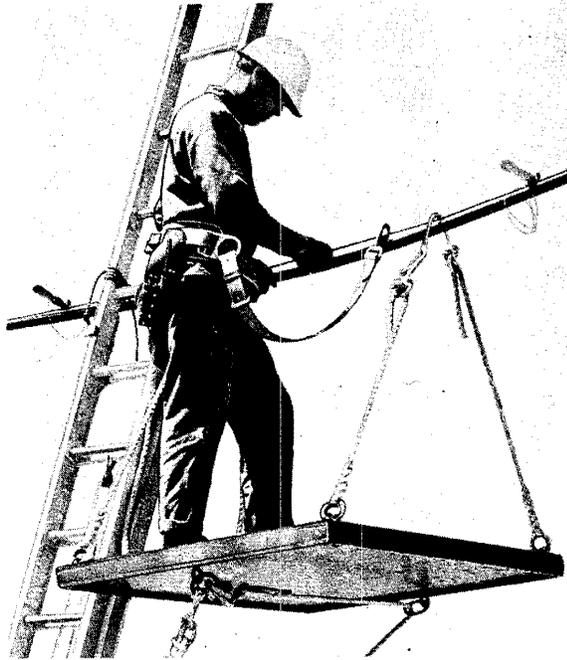

Fig. 8—Method of Using Safety Strap When Working From Aerial Platform
- (a) Attach one snap hook to a Dee ring and pass the free end across the front of the body, through the other Dee ring, and engage the other snap hook on the suspension strand. Use this method with belts other than the D, E, or F Body Belt. Fig. 8 shows this method used by a workman on an aerial platform.